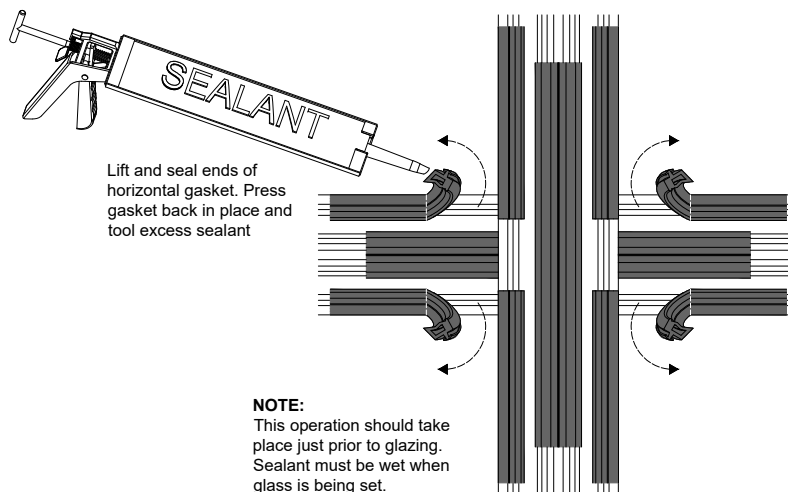

Fig.36.2
- A. Pull interior horizontal gaskets away from vertical gaskets and seal corners where gaskets abut. Release horizontal gasket back to its original position. See **Fig.36.2**.